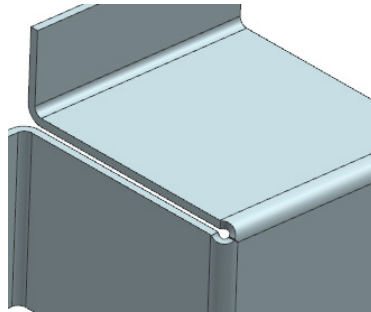

Figure 14-134 Partial view of the part after closing the corner
4. Choose the **OK** button to close the corner. The part after closing the corner is shown in Figure 14-134.